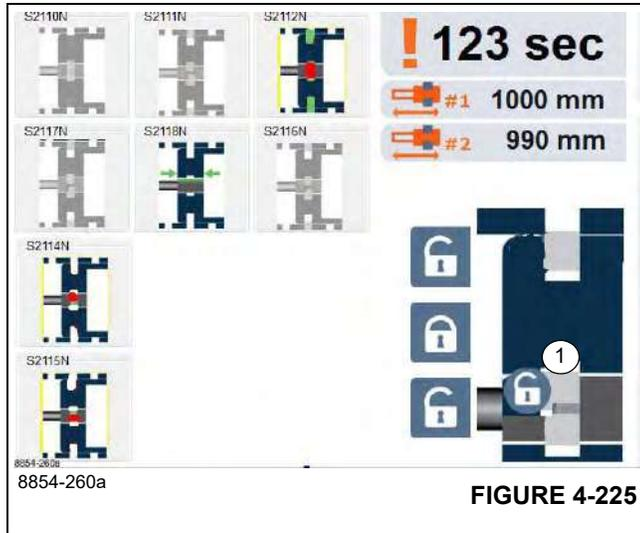

FIGURE 4-225
The telescoping cylinder is unlocked. In the unlocked position, the screen should appear as indicated by (1), (Figure 4-225). The telescoping cylinder is unlocked from any telescoping boom section.
In the top row of the proximity switches (Figure 4-225), S2112N is ON, the others in the row are OFF. In the middle row of the proximity switches, S2118N is ON, but the others are ON or OFF depending on the location of the tele cylinder with respect to telescoping boom sections.
- The proximity switch indicators for S2117N, S2118N, and S2116N are used to align the tele cylinder to the hole in the boom section. S2118N is ON whenever the tele cylinder pins are in the “foot section” or the near end of the boom section weldment where the hole is located. S2116N goes ON when the tele cylinder has extended beyond the hole. S2117N goes ON when the tele cylinder is not extended enough to reach the hole. Therefore, one would operate the tele cylinder until S2118N is ON, and S2116N and S2117N are OFF. This is what is shown in (Figure 4-225).